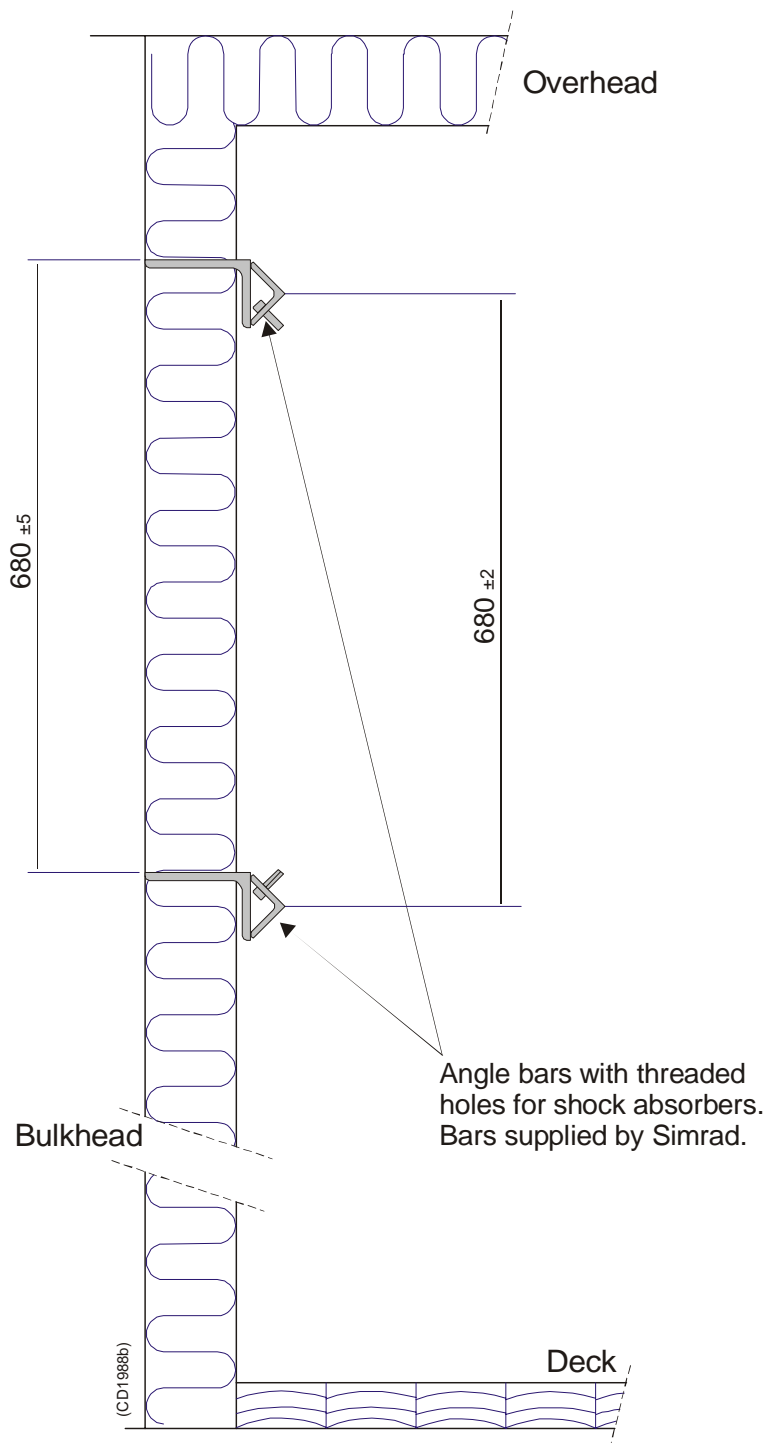

Figure 9 Mounting the brackets for the Transceiver Unit - Side view
- ☐ **3** Use a tackle carrier to lift the Transceiver Unit in position, and bolt it to the mounting brackets with the bolts included in the delivery. These 8 bolts are located in the plastic bag that was fastened to the upper shock absorber. Remember to fasten the grounding cable from the Transceiver Unit to the mounting bracket as shown in figure 9.